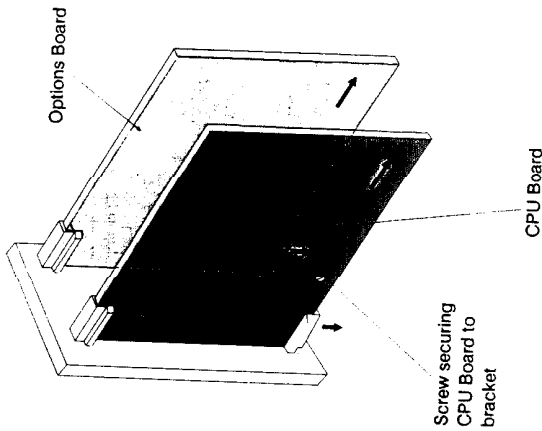

Figure 7-1 Detaching the PCBs from the Front Panel
- Grasp the guides (projecting to the rear from the right-hand side of the front panel - see Figure 7-1) and pull them outwards until the edges of the PCBs are released and the PCBs can be withdrawn backwards; grasp the guides on the left-hand side of the front panel and disengage the edges of the PCBs. The two PCBs may then be removed from the front panel assembly.